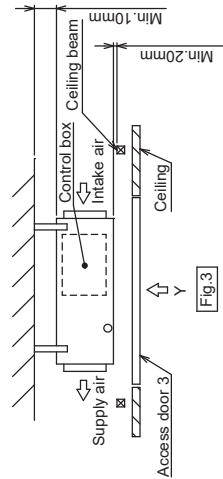

Fig.3
- (2) When a space of less than 300mm is available below the unit between the unit and the ceiling. (At least 20mm of space should be left below the unit as shown in Fig.3.)